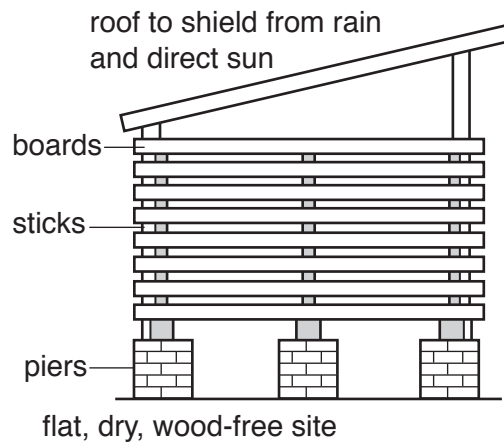

Fig. 4
- 9 Fig. 4 shows solid wood boards being seasoned outdoors in the open air.